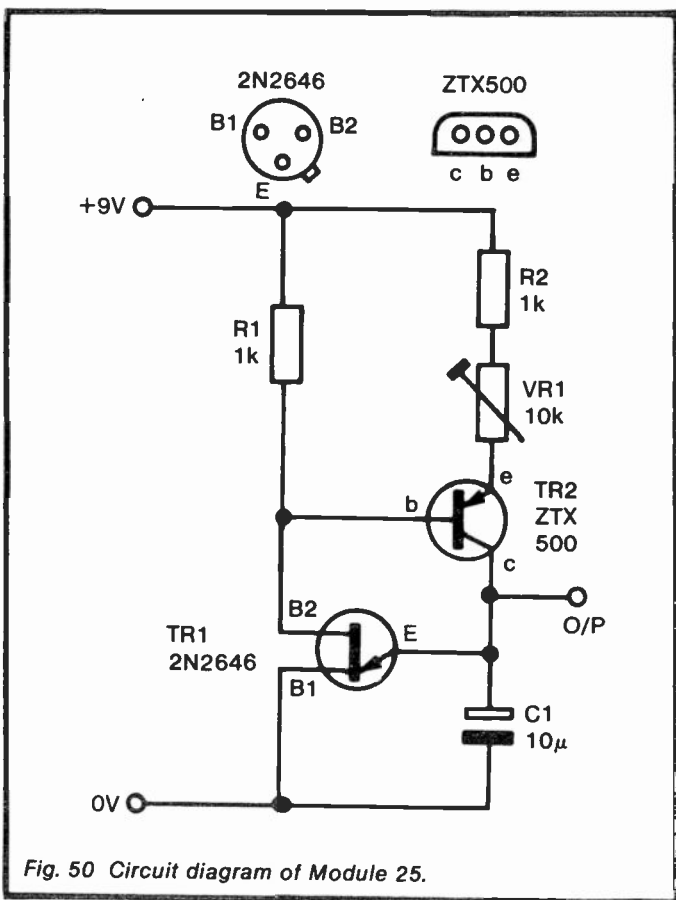

Fig. 50 Circuit diagram of Module 25.
*Circuit diagram:* see Figure 50.
*Stripboard layout:* wire link – I5 to O5. R1 – A4 to G4. R2 – A13 to D13. VR1 – D10, F10 and E6 (wiper). C1 – H10(+) to O10(-). TR1 – G6(B2), H6(E), I6(B1). TR2 – F13(e), G13(b), H13(c); this is a pnp transistor and the emitter is toward the *top* in Figure 50 and on the board. Terminal pins – A1, A15, H15, O1, O15. Solder blob joins E10 to F10.